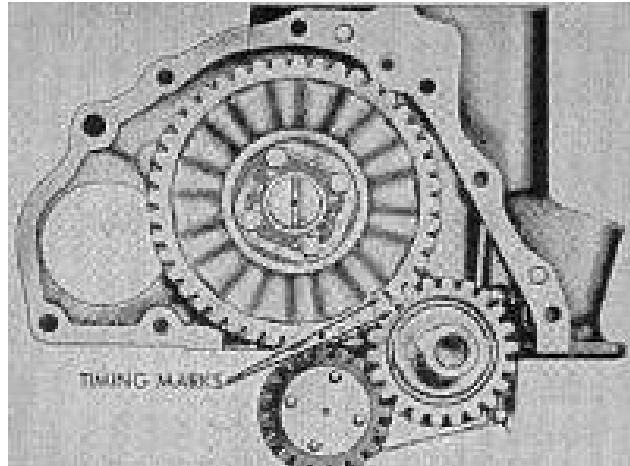
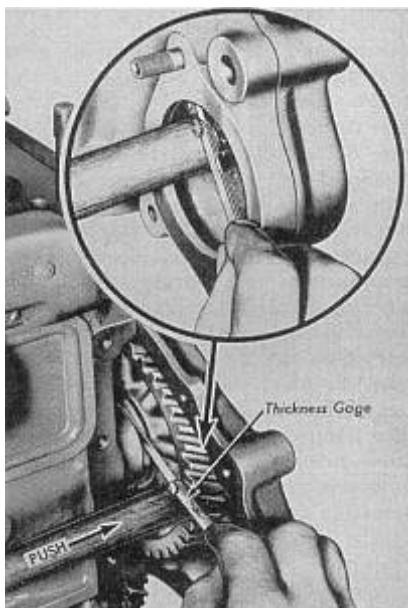

Fig. F020 – Valve timing marks.
Fig. F022 – If camshaft end play exceeds .006 when checked as shown, install a thinner gear cover gasket or a new cover.
Renewal of crankshaft gear requires use of puller and removal of front main bearing cap and oil pump assembly. When reinstalling camshaft gear, mesh timing marks on gears as shown in Fig. F020 and use extreme care so as not to injure or scrape the comparatively soft tooth faces of the camshaft gear.
29. Remove the timing gear cover as outlined in paragraph 28. Remove cylinder head and valves. Lift push rods out of bores and pull camshaft out toward front. Renew camshaft if journals are worn and measure less than 1.795 or if cams or journals are scored or corroded. Install camshaft in reverse order of removal and mesh timing gears as in Fig. F020. Check camshaft end play by measuring clearance between rear of camshaft gear flange and boss on engine block through governor opening or after removing side gear cover as shown in Fig. F022. If more than .004 clearance exists, use a thinner timing gear cover gasket or renew the cover. Check valve tappet clearance and respace or readjust, if necessary. For service, only the bolted-on gear type camshaft is available.